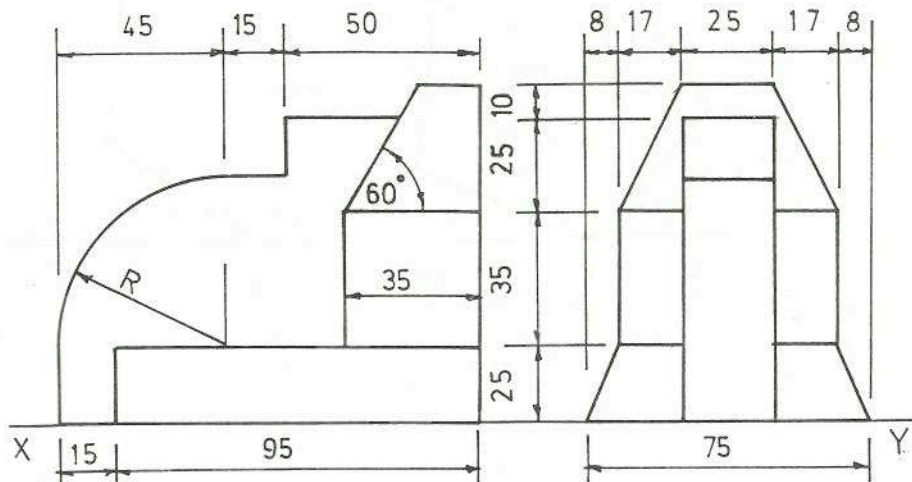

Fig. 5
5. The elevation and end-view of a shaped solid are shown in Fig. 5.
(b) Using the isometric grid paper provided make a neat well-proportioned FREEHAND sketch of the solid shown in Fig. 5.